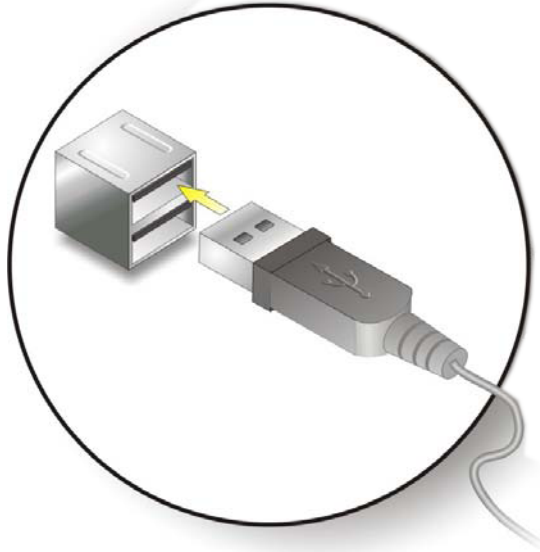

Figure 5-22: USB Device Connection
Step 2: Align the connectors. Align the USB device connector with one of the connectors on the 2807940. See **Figure 5-22**.